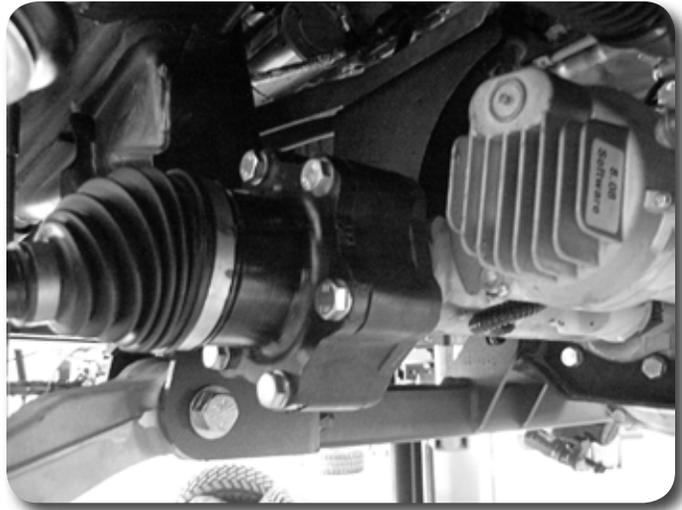

Figure 33
62. Position the provided CV spacer between the CV shaft and the differential mounting flange Figure 33. Fasten the CV and spacer to the differential flange with 10mm x 65mm SHCS bolts. Use Loctite on the bolt threads and torque to 45 ft-lbs using a crossing pattern.